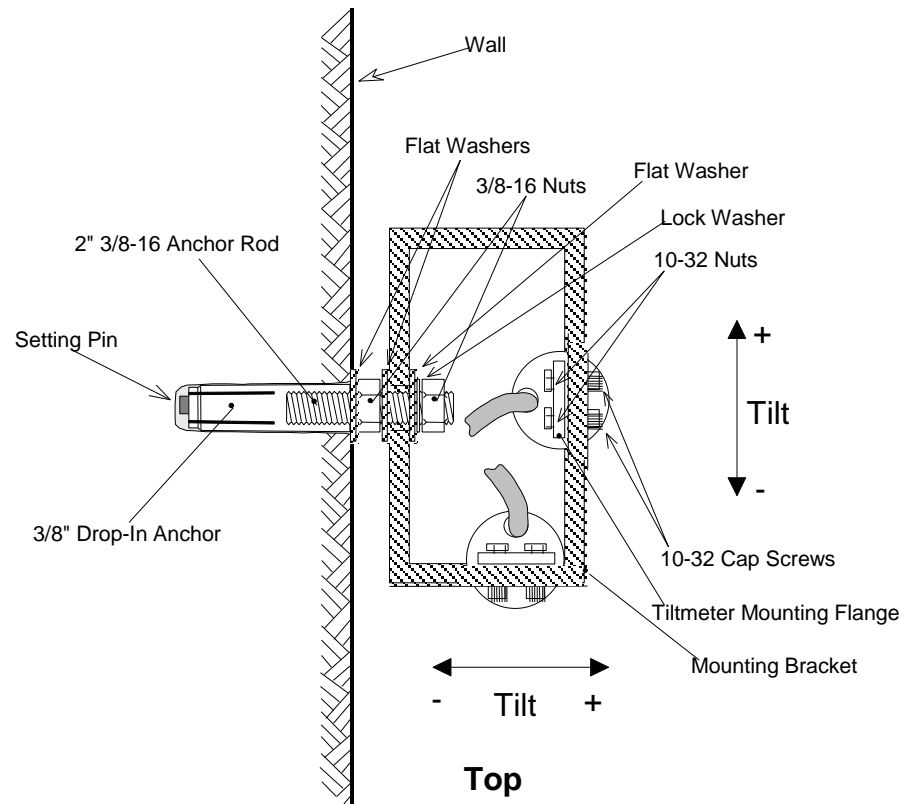

Figure 5 - Biaxial Tiltmeter Installation Details
2. Now, the sensor may be installed. Attach the tiltmeter to the mounting bracket using the supplied 10-32 cap screws, washers and nuts. **Remove the slotted-head locking clamp screw completely and replace with the Phillips-head seal screw (provided in a zip-lock bag). This is very important if the sensor is to remain waterproof.** Do not tighten the cap screws yet. Attach a portable readout such as the GK-401 or GK-403 (see Section 3 for readout instructions) and observe the reading. Adjust the sensor in the slot of the mounting bracket while observing the readout until the tiltmeter reads within ± 50 digits of the zero reading as shown on the calibration sheet (sample, Figure 5) supplied with the sensor. When the desired reading is reached, tighten the cap screws to secure the tiltmeter in place. Check the reading again after tightening to make sure it still reads within ± 50 digits of the zero reading.
Mark the location and drill using a hammer drill a ½" (12 mm) hole approximately 1½" (37 mm) deep. Clean the hole thoroughly, blowing out with compressed air if possible. Insert the 3/8" drop-in anchor with setting pin into the hole. The threaded end should be closest to the opening. Using the supplied setting pin tool and a hammer, set the anchor with 2 or 3 sharp blows on the setting pin. Thread the supplied 3/8-16 anchor rod into the anchor. Attach the mounting bracket to the bolt using the supplied hardware as illustrated in Figure 5. Use a bubble level or other leveling device to align the bracket vertically to the wall.
2. Now, the sensors may be installed. Attach the tiltmeters to the mounting bracket using the supplied 10-32 cap screws, washers and nuts. **Remove the slotted-head locking clamp screw completely and replace with the Phillips-head seal screw provided. This is very important if the sensor is to remain waterproof.** Do not tighten the cap screws yet. Attach a portable readout such as the GK-401 or GK-403 (see Section 3 for readout instructions) and observe the reading. Adjust each sensor in their slots of the mounting bracket while observing the readout until the tiltmeter reads within ± 50 digits of the zero reading as shown on the calibration sheet (sample, Figure 5) supplied with each sensor. When the desired reading is reached, tighten the cap screws to secure the tiltmeter in place. Check the reading again after tightening to make sure it still reads within ± 50 digits of the zero reading.